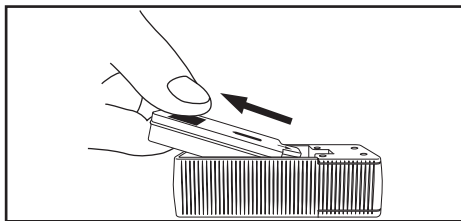

Figure 6
- 7.3. Pull the battery in a straight line away from the Smart Charging Case connector (Figure 6).